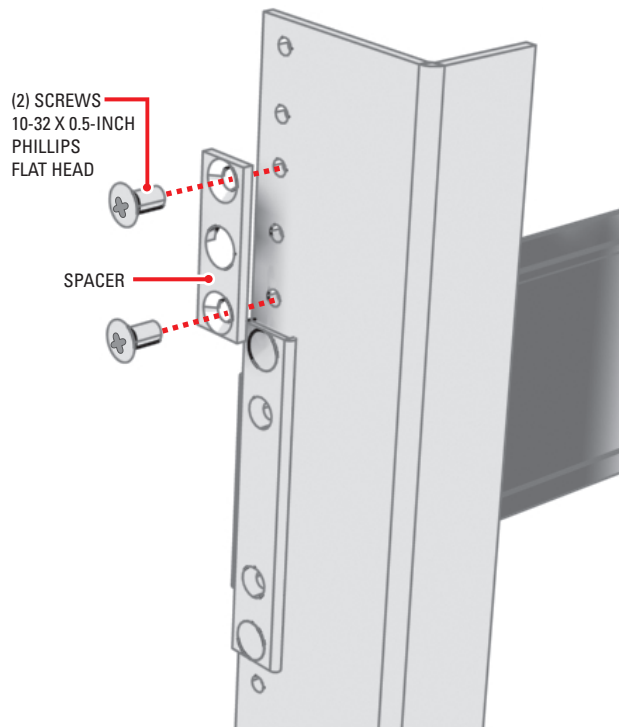

Figure 13. Attaching Rack Rail Spacers
7. Attach one rack rail spacer to the front of the equipment rack (refer to Figure 13):